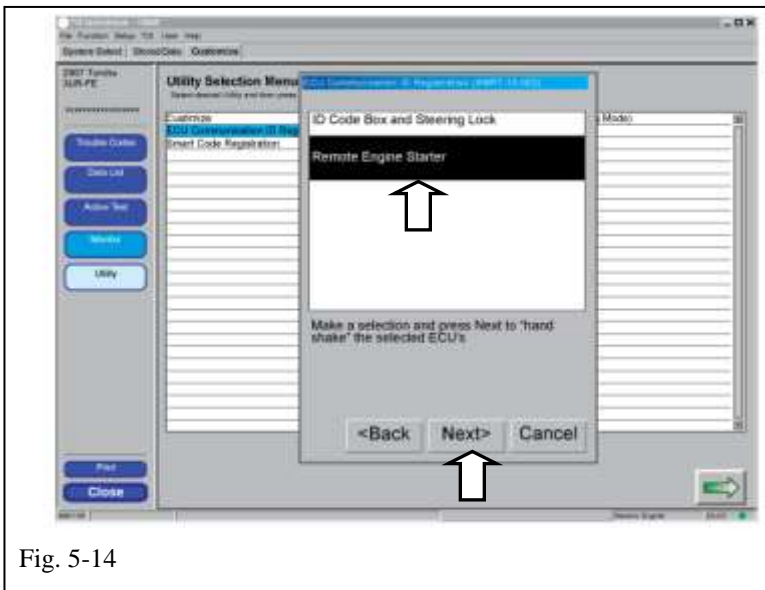

Fig. 5-14
- (aa) Select "Remote Engine Starter." (Fig. 5-14)
- (bb) Click "Next>" to continue. (Fig. 5-14)